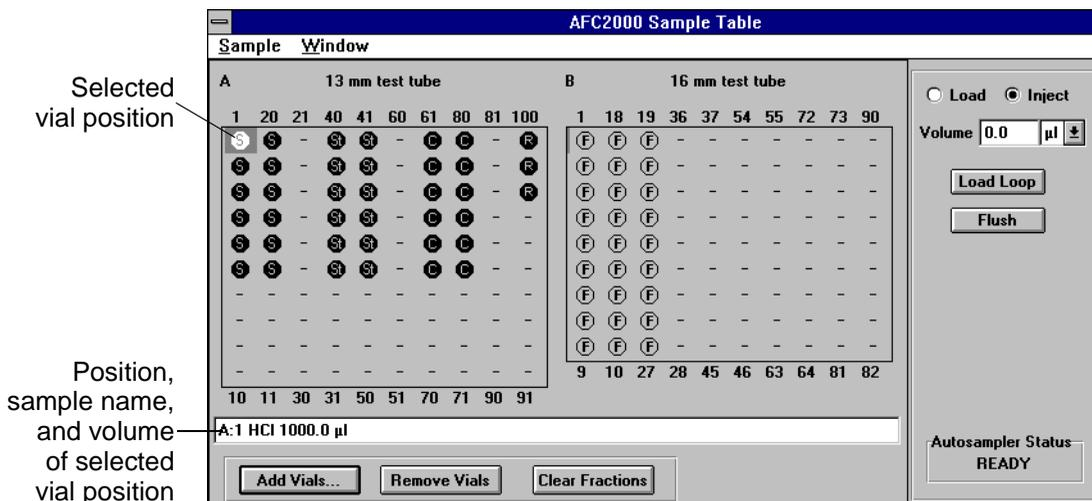

Figure 3-16 AFC 2000 Sample Table Window
The AFC 2000 Sample Table window is displayed (Figure 3-16). The number, arrangement, and labeling of vials in the Sample Table reflect the type of rack you configured. For more information, see “Rack type” on page 3-20.
The Sample Table window is displayed again, with all selected vial positions labeled with the designated vial type: Sample (S), Standard (St), Control (C), Reagent (R), or Empty Fraction (F). Click any vial position to display the position, sample name, and volume at the bottom of the Sample Table window (see Figure 3-16 on page 3-31).
The AFC 2000 Sample Table window is displayed (see Figure 3-16).